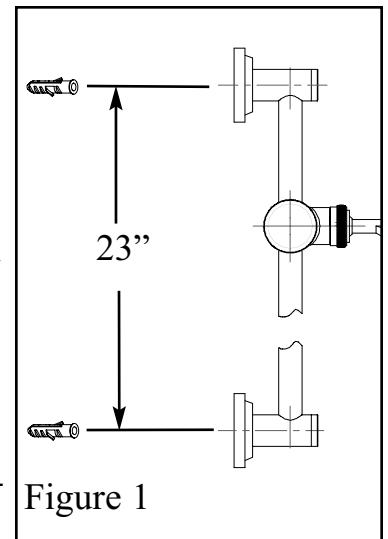

Figure 2
- Place SLIDE BAR (2) into END POST (3). Note: Large diameter hole in SLIDE BAR (2) must face out as shown in Figure 2.
- Place POST (3) onto ESCUTCHEON (4), insert SCREW (5) & securely tighten into ANCHOR (1) as shown in Figure 2.
- Press END CAP (6) into end of POST (3).